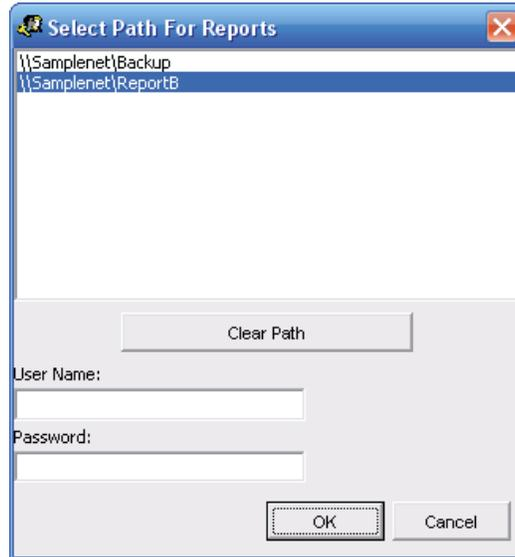

Figure 16: Select Path for Reports
This opens a window that lets you set the reports path (Figure 16).
2. In the Select Path for Reports window (Figure 16), click the **Clear Path** button. This will clear all text from the Path field(s).